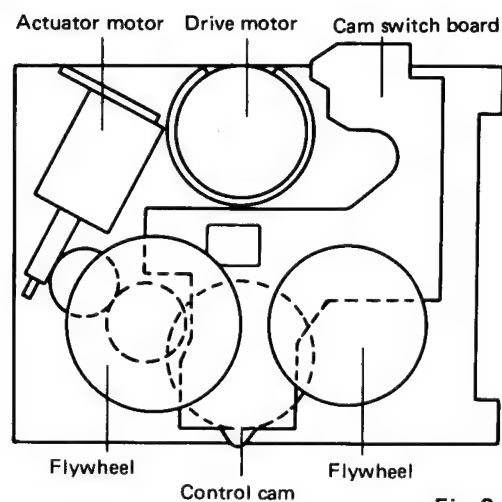
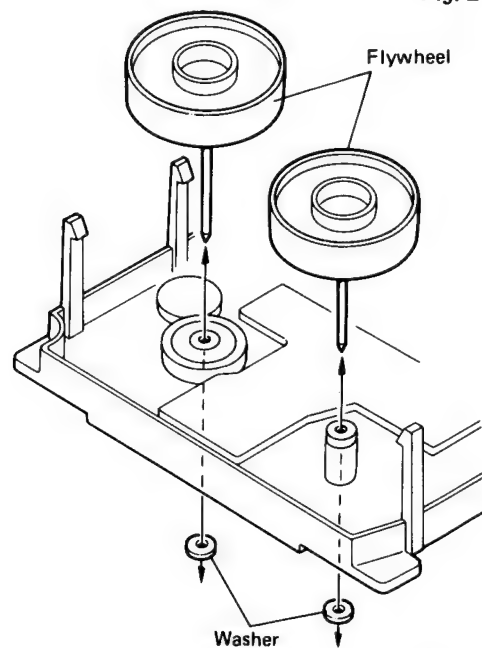
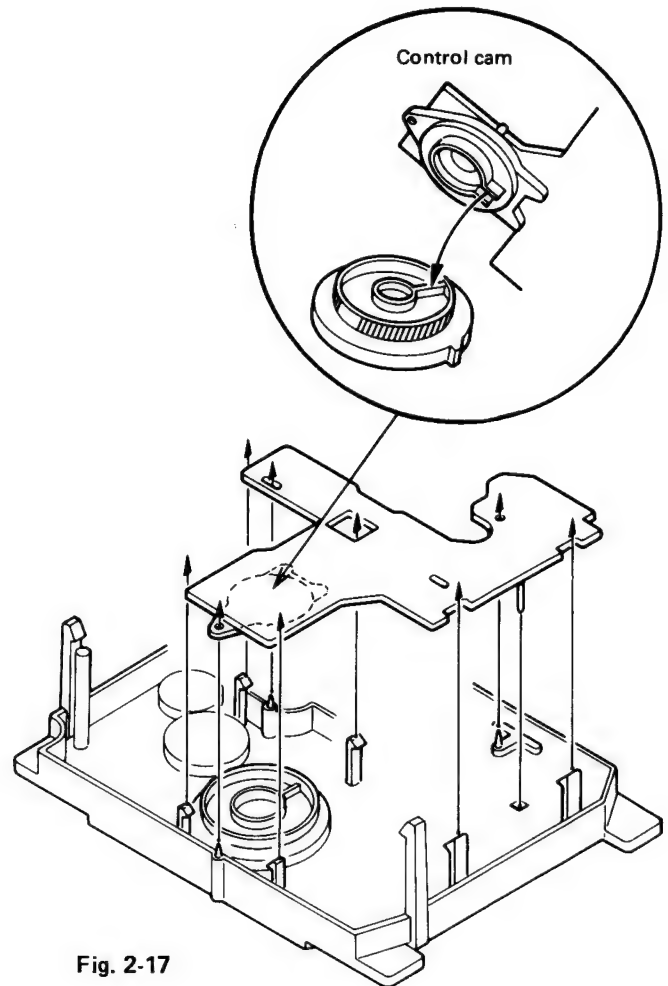
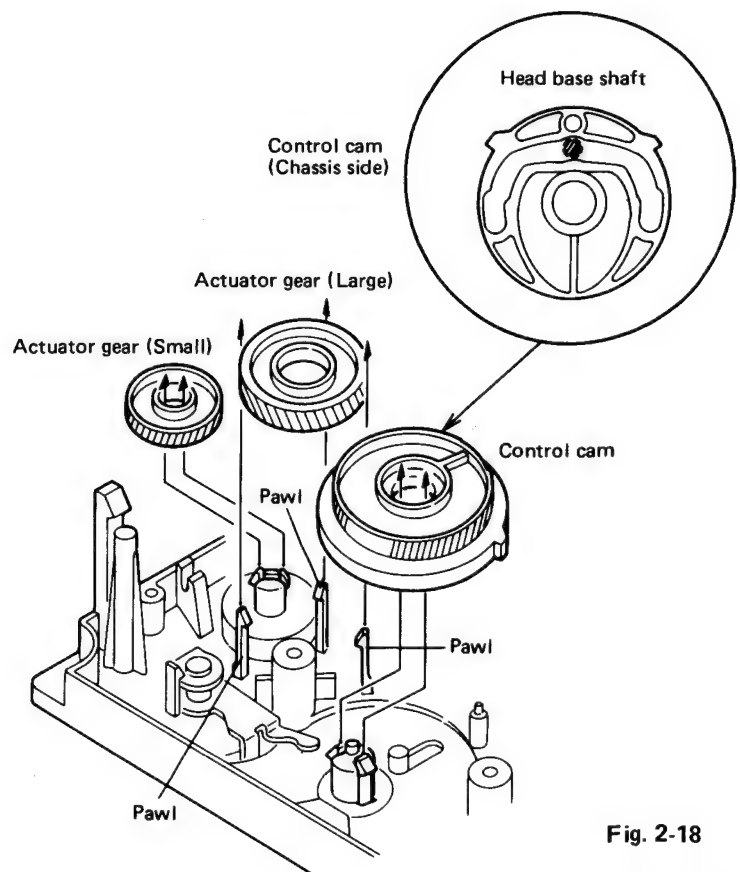

Fig. 2-14
Fig. 2-15
Fig. 2-17
Fig. 2-18
- **Flywheel assembly** (Fig. 2-14, Fig. 2-15)
■ **Cam switch board** (Fig. 2-14, Fig. 2-17)
■ **Actuator gear (large)** (Fig. 2-14, Fig. 2-18)
■ **Control cam** (Fig. 2-14, Fig. 2-18)
■ **Actuator gear (small)** (Fig. 2-14, Fig. 2-18)